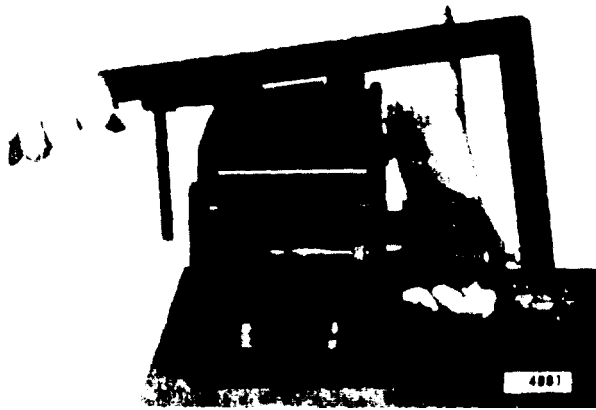

Figure 11C-9. Check Rack and Plunger for Free Movement
2. Remove the fuel pipes from both the injector and the fuel connectors (see Figure 11C-7 on page 11C-4).